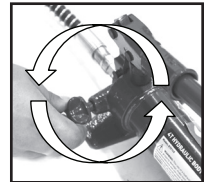

Fig.13
- Turn the release valve (9) counter clockwise to release the pressure (Fig 13).